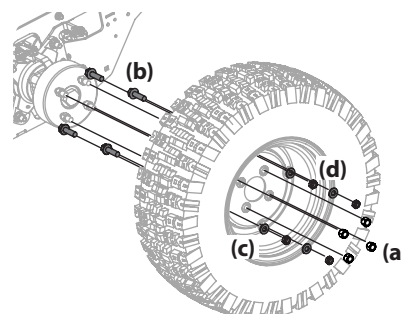

Figure 47
3. Remove the four lug nuts (a) to remove the inner tire. See Figure 47.
4. If replacing the inner tire, remove the four hex screws (b), washers (c) and jam nuts (d) that hold the mounting screws in place for the dual wheel adapter. See Figure 47.